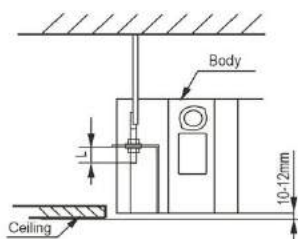

fig. 6
- Adjust the position to ensure the gaps between the body and the four sides of ceiling are even. The body's lower part should sink into the ceiling for 10~12 mm (refer to fig.6).
- In general, L is half of the screw length of the installation hook. (refer to fig.6)